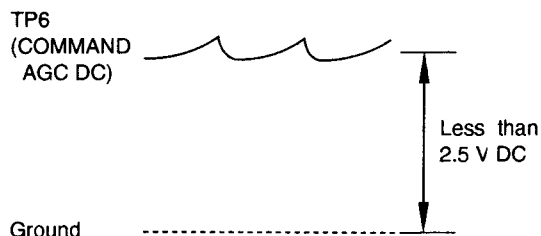

Fig. 4-2-11
- Confirm that the DC level of the Command AGC DC signal becomes less than 2.5 V DC as shown in the Fig. 4-2-11.